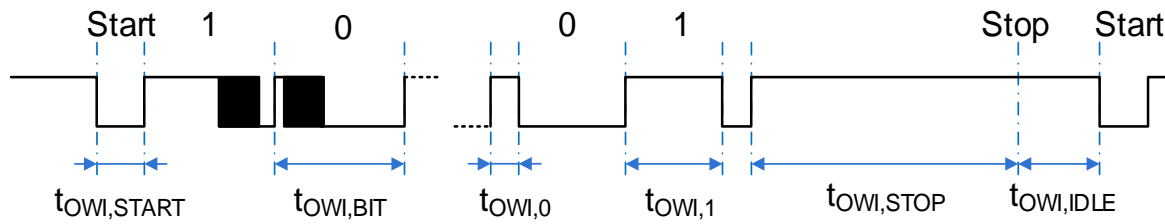
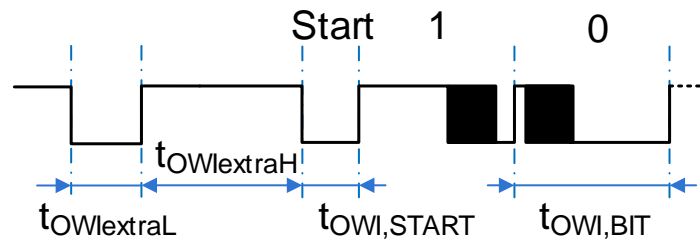

Figure 15. OWI Timing Diagram
Figure 16. OWI Extra (Activation) Pulse for Concurrent OWI and Analog Output Configuration
- **Valid Data:** Data is transmitted in bytes (8 bits) starting with the most significant bit (MSB). Transmitted bits are recognized after a start condition at every transition from low to high at the OWI line. The value of the transmitted bit depends on the duty ratio between the high phase and high/low period (bit period, $t_{OWI,BIT}$ in Figure 15). A duty ratio greater than 1/8 and less than 3/8 is detected as 0; a duty ratio greater than 5/8 and less than 7/8 is detected as 1. The bit period of consecutive bits must not increase to more than 1.5 times the previous bit period or decrease to less than half of the previous bit period because a stop condition is detected in this case.
OWI protocol timing and parameters are specified in Figure 15, Figure 16, and Table 24.
- **Continuous OWI and Analog Output:** The configuration *owi_off* = 0, *cont_ANAoutn* = 0, and *owi_su_case* = 1 results in AOUT providing analog output levels as soon as they are available after power-up (in Cyclic Mode). Concurrently, the OWI listens to the AOUT¹ pin in order to check for valid OWI commands. The OWI still needs to be enabled by means of the *Startup OWI* command. The physical protocol in this configuration requires an extra pulse (see Figure 16) prior the *Startup OWI* command. After the release of the extra OWI initialization pulse, the analog output is switched off² and AOUT becomes the OWI I/O pin until the OWI startup window (according to *owi_su_length*) has elapsed. The OWI-master implements *Dynamic Driving* to avoid dynamic currents (due to DAC-output level changes) causing unwanted pull-up signal generation (via R_{OWI,PULL}). When *Dynamic Driving Approach* is not applied in this configuration, set the constantly connected OWI-master pull-up resistances (R_{OWI,PULL}) to ≥5.5kΩ to prevent erroneous OWI-start detections that can be triggered by changing DAC-output levels. Limit the interface speed to slower values with the proper setting, such as longer bit period.